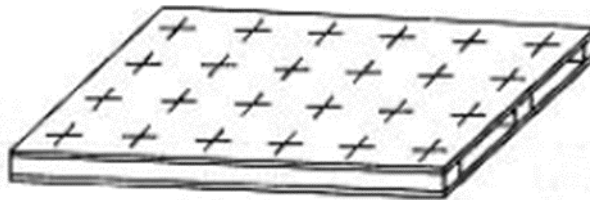

Figure Q5(B). Pallet for placing components
- 5B.** A Robot must pick up the components from incoming conveyor system and place on different locations of the pallet as shown in the figure Q5(B). The spacing between dropping location is 20 cm in both x and y directions. Using the appropriate commands write the complete compact robot program to achieve this task efficiently. Assume suitable variable locations. **(05)**